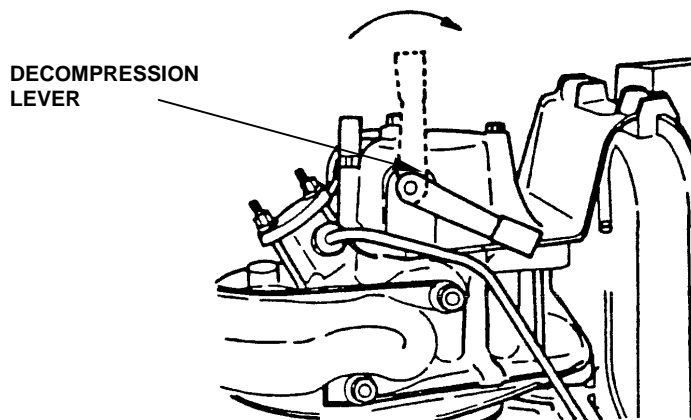

Figure 27. Decompression Lever.
6. Push and hold down on the decompression lever on the diesel engine. See Figure 27.